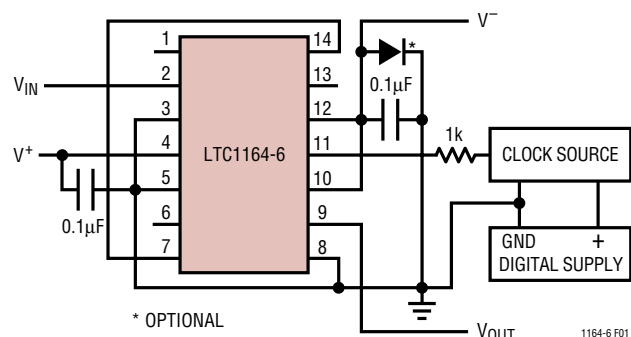

Figure 1. Dual Supply Operation for  $f_{CLK}/f_{CUTOFF} = 100:1$
could go above ground, a signal diode must be used to clamp  $V$ . Figures 1 and 2 show typical connections for dual and single supply operation.
**CLK (Pin 11):** Any TTL or CMOS clock source with a square-wave output and 50% duty cycle ( $\pm 10\%$ ) is an adequate clock source for the device. The power supply for the clock source should not be the filter's power supply. The analog ground for the filter should be connected to clock's ground at a single point only. Table 1 shows the clock's low and high level threshold value for a dual or single supply operation. A pulse generator can be used as a clock source provided the high level ON time is greater than  $0.5\mu s$ . Sine waves are not recommended for clock input frequencies less than 100kHz, since excessively slow clock rise or fall times generate internal clock jitter (maximum clock rise or fall time  $\leq 1\mu s$ ). The clock signal should be routed from the right side of the IC package to avoid coupling into any input or output analog signal path. A 1k resistor between clock source and Pin 11 will slow down the rise and fall times of the clock to further reduce charge coupling, Figures 1 and 2.